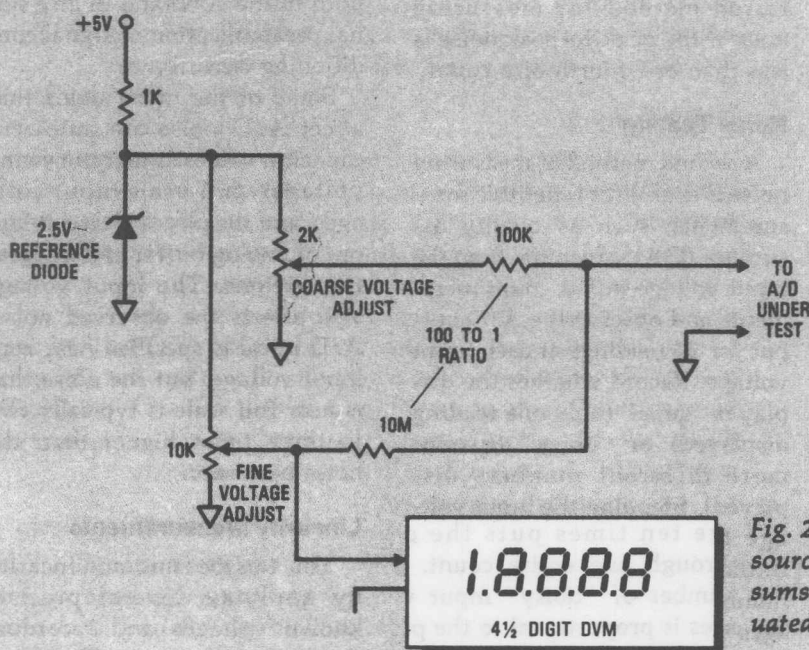

Fig. 2. This high-resolution voltage source for testing A/D converters sums a coarse voltage with an attenuated "dither" source.
Whenever the output voltage drops below 4.65 V, an external delay capacitor, optionally connected to the chip's Reset Delay pin (RD), discharges rapidly, sending $\overline{\text{OUV}}$ low (Fig. 2). When the regulated output returns to 5 V, the delay capacitor recharges slowly; when its voltage finally hits 8 V, $\overline{\text{OUV}}$ goes high. The
A high-resolution input-voltage source is required to measure A/D noise. This voltage source must also have good short term stability but need not be a high-accuracy source. A $6\frac{1}{2}$ -digit voltage calibrator, if available, makes an ideal source. However, you can also make an acceptable input voltage source by summing a coarsely-adjusted voltage source with an attenuated "dither" voltage (Figure 2).
Some battery-powered systems, however, call for short bursts of high current. The extra circuitry designed to meet that need (Fig. 2) converts $-3\ \text{V}$ to $+5\ \text{V}$ in the buck-boost or flyback mode (see "Dc-dc Converter Configurations," p. 178).